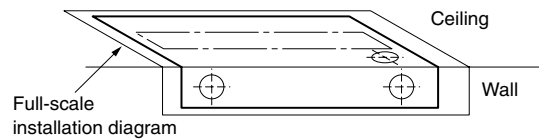

Fig. 3-113
- (1) Place the full-scale diagram (supplied) on the ceiling at the spot where you want to install the indoor unit. Use a pencil to mark the drill holes. (Fig. 3-113).